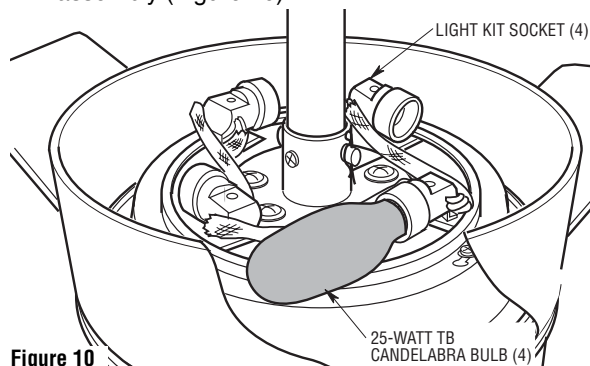

Figure 10
- 11. Place a 25-watt T8 candelabra bulb (supplied) in each of the four light sockets of the light kit assembly (Figure 10).